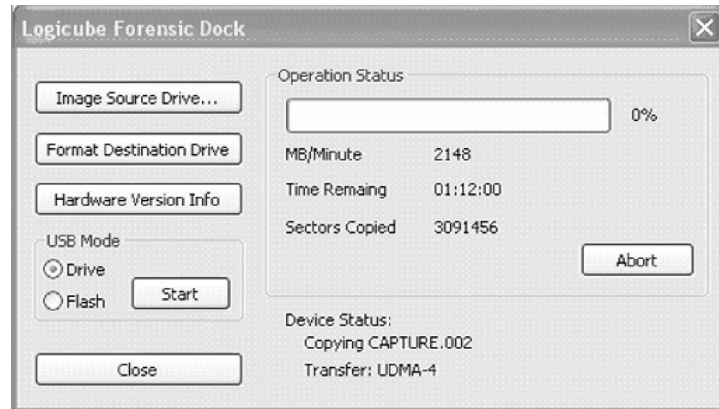

Figure 15 – Image Capture Progress Screen
12. The capturing process will create as many files as necessary within this sub-directory, with increasing extension numbers (e.g. my_disk.001, my_disk.002, etc.). The Remote Control Interface will show the Capturing speed, Time remaining, etc. It should look similar to Figure 15 below: